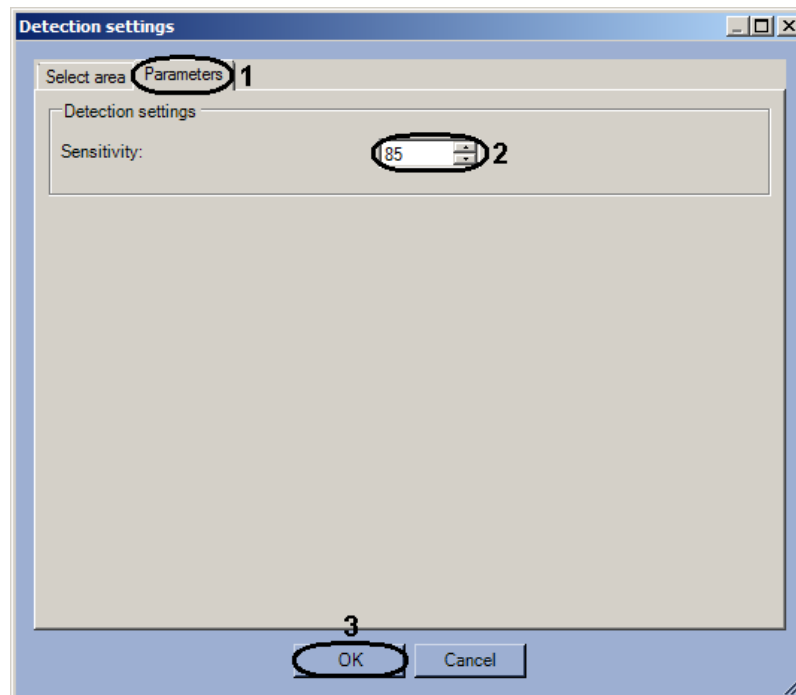

Fig. 6.4—5 Sensitivity configuration
4.2. Using the **up-down** buttons enter the value of sensitivity parameter in the **Sensitivity** field (Fig. 6.4—5, **2**). The optimal value is selected experimentally by testing detection on triggering in the required conditions. The value range is from 0 to 100. The more sensitivity the more possibility of false triggering. The less sensitivity, the more possibility of losing event.
5. Click the **OK** button (Fig. 6.4—5, **3**).